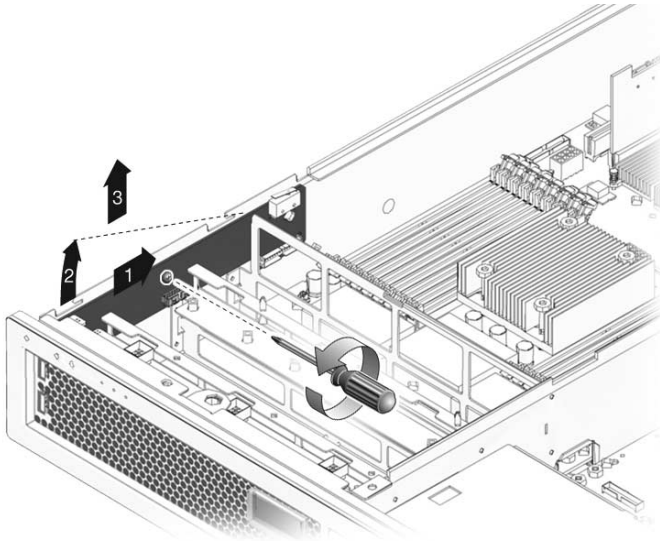

FIGURE 5-24 Removing the Front I/O Board
8. Slide the front I/O board back, tilt it up, clear the two mounting tabs in the front, and lift the board straight out of the chassis (FIGURE 5-24).